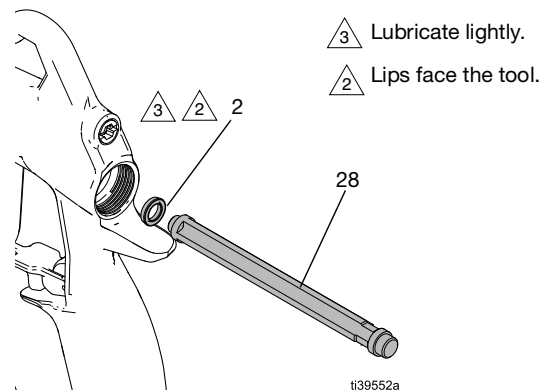

FIG. 47: U-cup installation
5. Place a new u-cup (2) on the seal installation tool (28), with the u-cup lips facing the tool. See FIG. 47.
6. Firmly push the u-cup (2) into the back of the gun until the u-cup (2) snaps in place.
7. Install the gun trigger (9). See **Install the Trigger**, page 30.